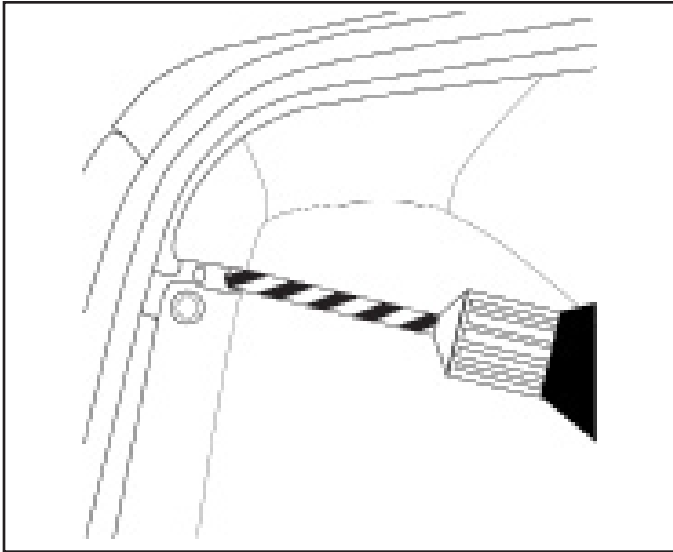

Fig. 4
8. Where the upper push-pin retainer was removed, enlarge the hole using a drill and 1/2" drill bit, fitted with a drill stop set at 1/2". (Fig. 4)